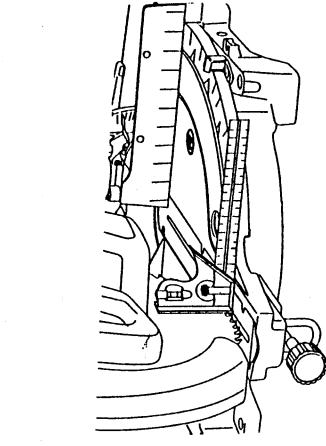

Fig. 10
1. Loosen the Bevel Lock Handle and move the cutting head all the way to the right and tighten the Bevel Lock Handle ①.
2. Use a square to set the blade at 90° to the table. (Fig. 10)
3. If an adjustment is necessary, loosen the lock nut ② and adjust the bolt ③ using the supplied wrench so that the blade is 90° to the table.
5. Adjust the bevel indicator ④ to the 0 mark using the screw ⑤.
6. To adjust the 45° stop, follow the same procedure as the 90° but move the cutting head to the left and use the lock nut ⑥ and bolt ⑦.